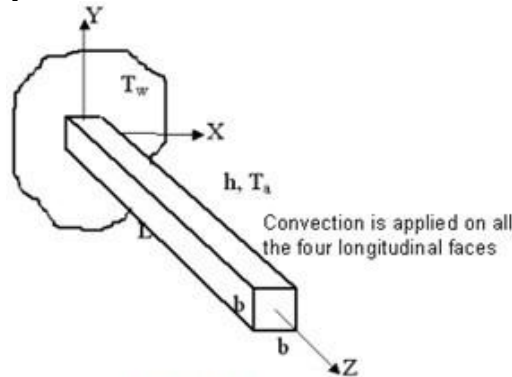

Figure 14
14. A steel cooling spine of cross-sectional area A and length L extend from a wall maintained at temperature T_w (Figure 14). The surface convection coefficient between the spine and the surrounding air is h , the air temperature is T_a , and the tip of the spine is insulated. Apply advanced mesh control with element size of $0.025'$. Find the heat conducted by the spine and the temperature of the tip. **Material properties**